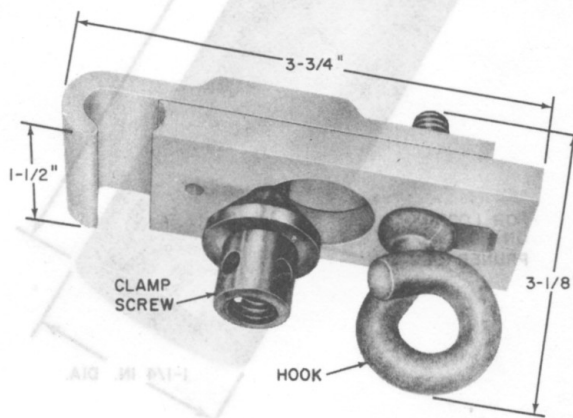

Fig. 1—F Span Clamp
2.01 The F Span Clamp, illustrated in Fig. 1 is an aluminum clamp that is shaped at one end to grip the suspension strand. A galvanized steel hook for attaching and supporting drop wire clamps is located at the other end. The lower side of the clamp is moved by the beveled portion of the clamp screw when rotated in a clockwise direction. The forward motion of the lower clamp side forces the strand against the curved upper clamp side locking the clamp securely on the strand. The clamp screw is turned by the B Clamp Wrench locked into the handle of a standard tree pruner section.